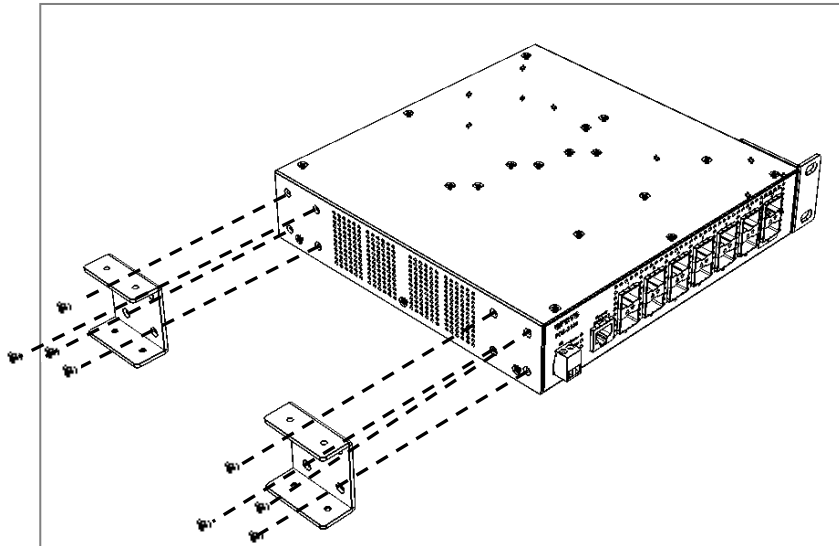

Figure 2-3. Install the L-shaped fixed pieces in the reverse direction for two-switch mounting
2.4. On the left side of the switch, attach one L-shaped fixed piece in the reverse direction by inserting the screws provided in the combine kit through this fixed piece and into the mounting holes in the switch. (See Figure 2-3)
2.5. Repeat the same manners as we had mentioned in Step 2.4 to install another L-shaped fixed piece on the same side of the switch. (See Figure 2-3)